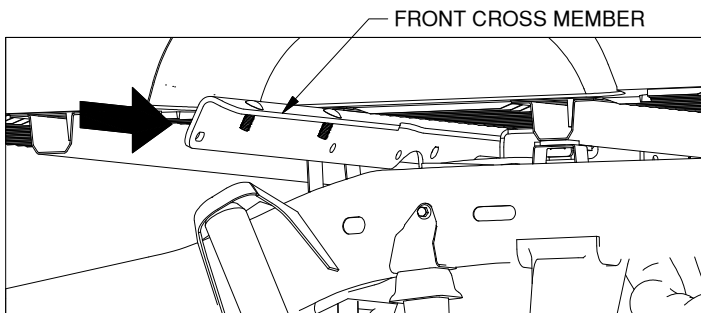
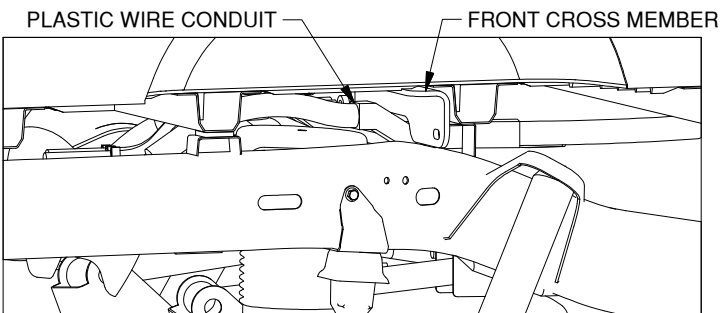

Figure C2: View looking into driver side wheel well.
Figure C3: View looking into passenger side wheel well.
- 2. Place front cross member.** The cross member will be installed from the driver side, just in front of the rear tire. Insert the cross member between the bottom of the bed and the top of the frame, as shown in Figure C2. Carefully slide the cross member over the two tubes, and a plastic wire conduit present under the truck bed, see Figure C3. Center the cross member over both frame rails.